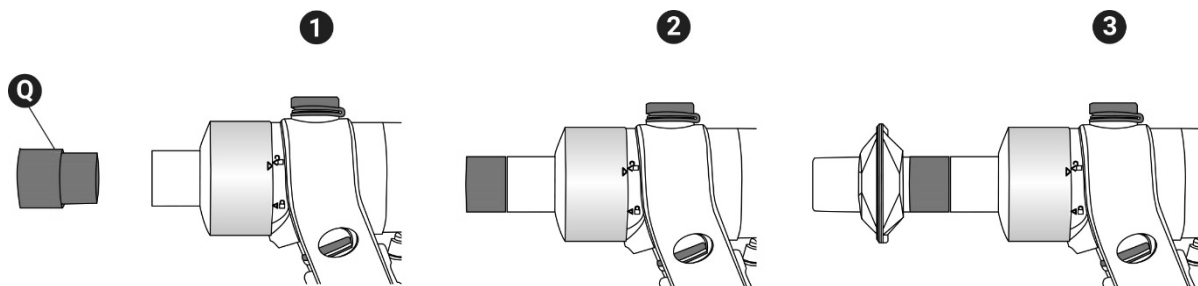

Figure 4: Fitting MIP/MEP Adaptor
12. If Maximal Inspiratory Pressure (MIP) or Maximal Expiratory Pressure (MEP) tests are performed, MIP/MEP Adaptor (Q) must first be pushed into Patient Valve as shown in Figure 4, with a BVF then pushed into the other end of MIP/MEP Adaptor.